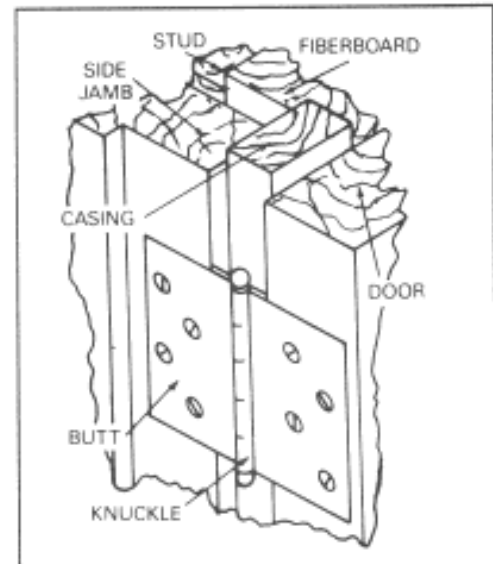
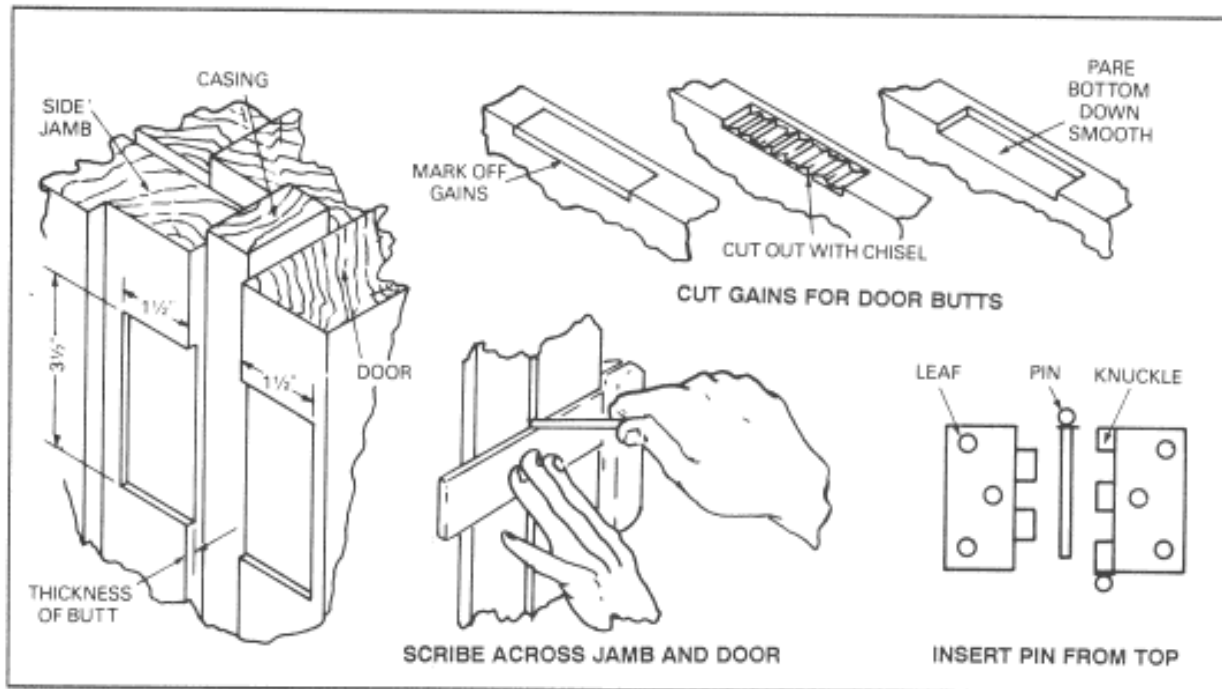

Figure 8-10. Door butt (hinge)
Figure 8-11. Installing door butts (hinges)
*Step 5. Door butts (or hinges)* (Figure 8-10) are mortised into the door frames as shown in Figure 8-11, page 8-8. Use three butt hinges on all full-length exterior doors to prevent warping and sagging. Place the butts and mortise them with the utmost accuracy so that the door will open and close properly, and so that the door, when open, will not strike the casing. The butt pin must project more than half its thickness from the casing.